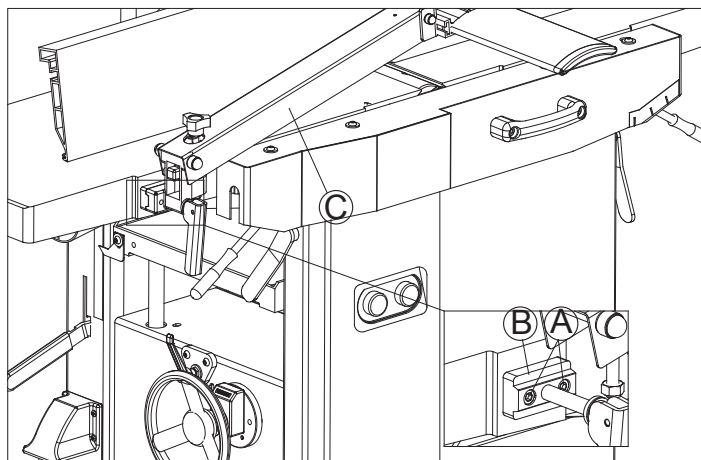

FIG. 5
- Take off both of the hex socket screws (A, Fig.5). Install the cutterblock guard assembly (B, Fig.5) using two of hex socket screws. Make sure the square washer (C, Fig. 5) stay between the table and cutterblock guard.